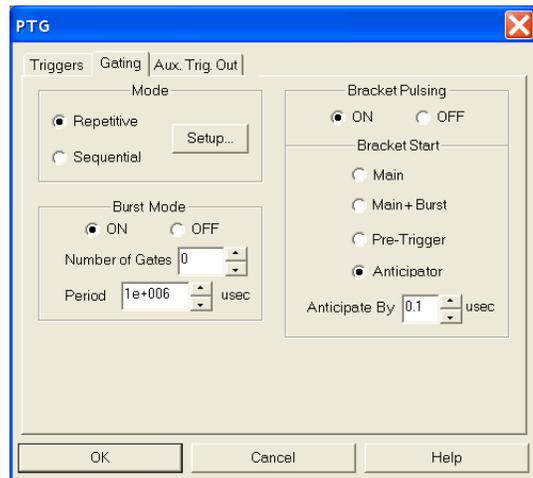

Figure 135. PTG/Gating tab
7. Click on the **Gating** tab (Figure 135).